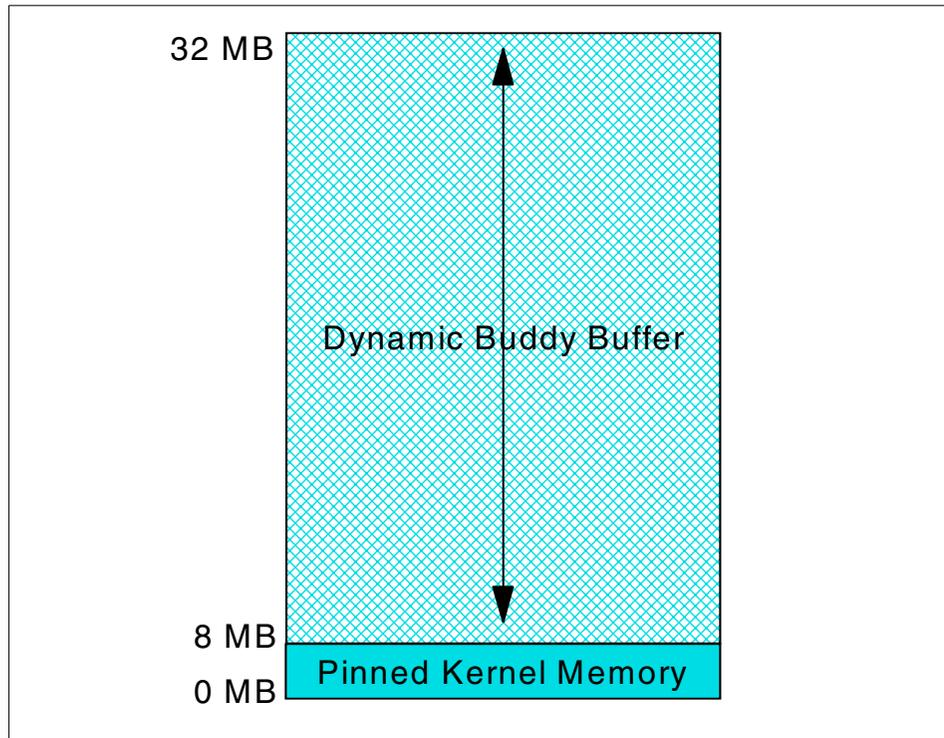

Figure 4-3 32-bit kernel example
- ▶ For an AIX 32-bit kernel, 128 256 KB buffers, which results in an initial pinned buddy buffer size of 8 MB that can increase to 32 MB. This is shown in Figure 4-3 on page 83.